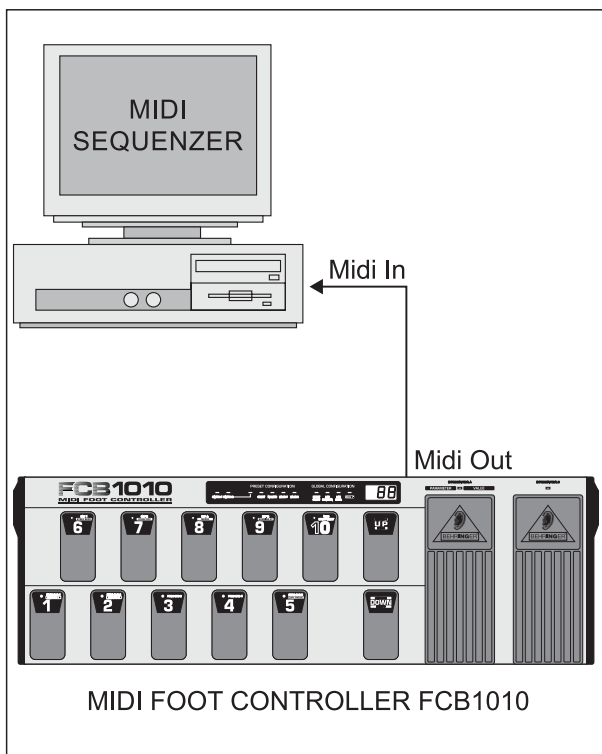

Fig. 2.5: Sending a SysEx-Dump
- ▲ Connect the MIDI OUT of your FCB1010 to the MIDI IN of your sequencer/computer (see fig. 2.5)